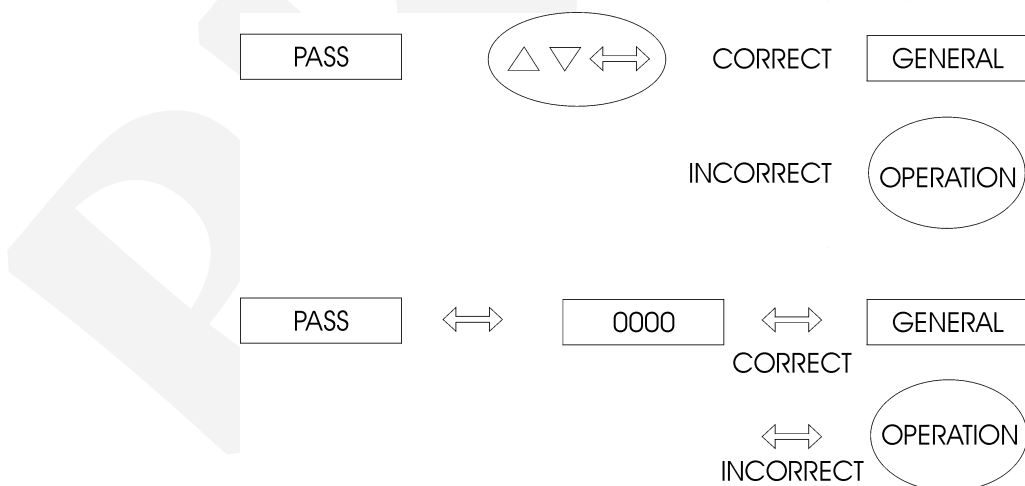

Fig. 10 - Password through key sequence or value
- ii) The PASS warning is displayed, indicating that the instrument is provided with a password system (a key sequence or a value), according to figure 10.
For a value password, the user must press the ENTER key for a second time in order to view the number 0000 with the right end digit blinking. The position which is blinking indicates the digit in the number to be changed by the user with the UP and DOWN keys. Move to the digits on the left by pressing ENTER. After entering all digits, press ENTER again. If the password is correct level 1 is accessed; otherwise, it returns to normal operation (see figure 10).